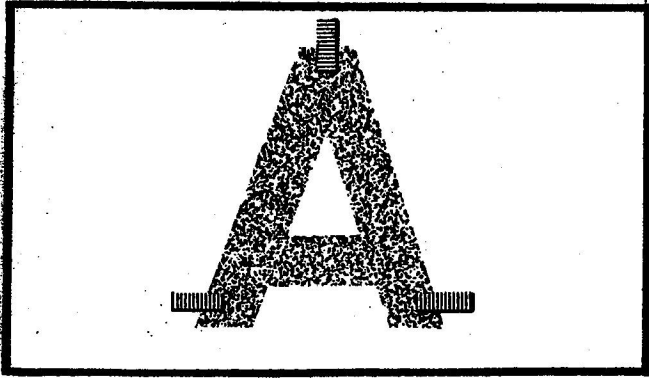

Figure 1
- (d) Tape the decalcomania into position with small strips of masking tape, see Figure 1.